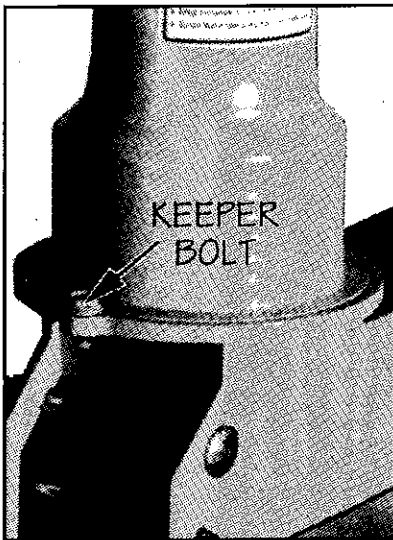

FIG. 3 - DISCHARGE CHUTE
STEP 1: Discharge chute requires installation. The keeper bolts which secure the discharge chute are shipped in place. Remove the two keeper bolts. Place the discharge chute base in the ring and secure with keeper bolts. (Refer to Figure 3.)
STEP 9: Install discharge chute. The keeper bolts which secure the discharge chute are shipped in place. Remove the two keeper bolts. Place the discharge chute base in the ring and secure with keeper bolts. (Refer to Figure 3 on page 7.)